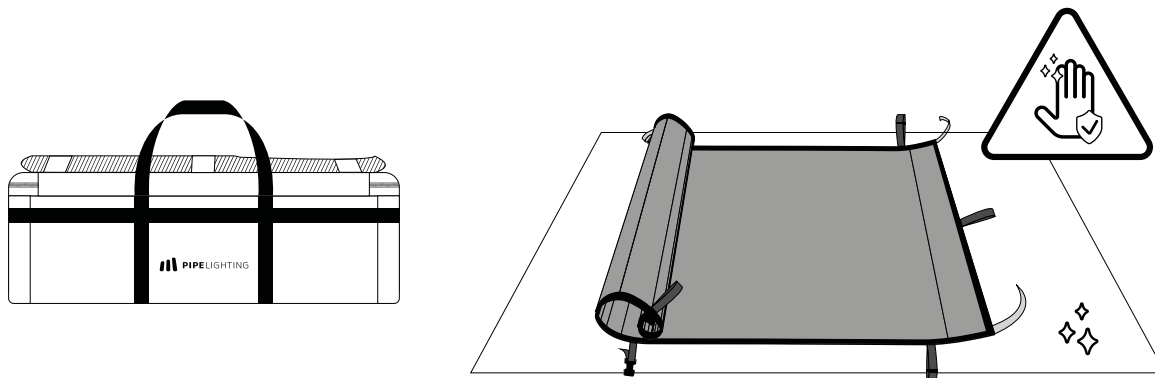

Fig. 3
1. Open the case, take the lamp head with clean hands. Unroll the lamp head on a flat clean surface without any sharp or hot objects (Fig. 3).